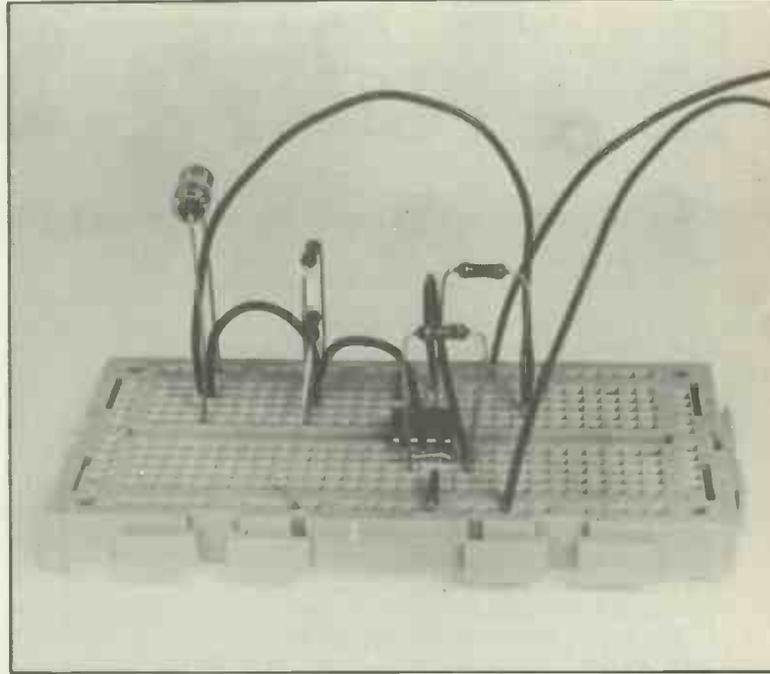

Figure 3. A breadboard circuit which uses single strand wire for all connections
- on a breadboard (see Fig. 3) where connections are made from one socket to another. You shouldn't use multi-strand here because the thin strands tend to break off and get stuck inside the sockets